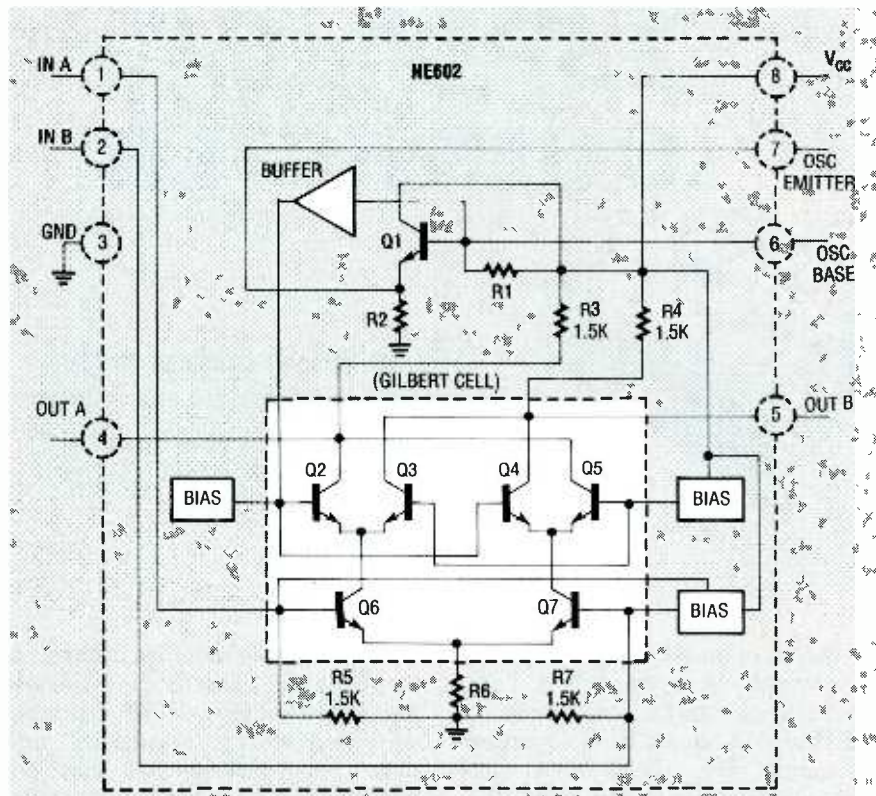

FIG. 2.—NE602 EQUIVALENT CIRCUIT WITH PINOUTS. The combination of differential amplifier Q6-Q7 and mixers Q2-Q3 and Q4-Q5 is called a Gilbert cell.
**FIG. 1—TYPICAL BRIDGE RECTIFIER, with voltage waveform shaped by an LC filter network. If only a pure resistive network were connected across points A, the waveform shown in Fig. 2-a would be seen with the aid of an oscilloscope.**
tion, or the unwanted generation of power-line voltage components at frequencies that are multiples of 60 Hz. Linear loads that draw power in proportion to the square of voltage exhibit far fewer problems. With rectifiers, however, strange things start happening to current waveforms. Figure 1 shows a full-wave bridge rectifier, while Fig. 2 shows the relevant voltages and currents.
The voltage across points A and C in Fig. 2-a is a full-wave, rectified sinusoid provided that only a purely resistive load were connected. Across points B and C, the LC filter produces the waveform shown in Fig. 2-b. The current from the bridge rectifier charges capacitor C1 for a small portion of each half cycle as shown in Fig. 2-c, and it supplies power to the load during that brief period. Capacitor C1 provides the power that drives the DC load for the remainder of the half cycle. Inductor L1 smooths the sharp points in the rectified voltage curve at *b*, but its effect on the following discussion is nil.
As the rectifier voltage drops to zero, the charge in C1 drives the DC load. Thus, current flows through transformer T1 for only a small portion of the sinusoid, as shown in Fig. 2-c, driving the DC load and recharging C1, so the energy is concentrated in short pulses. This pulsed current generates harmonics, making a transformer run hotter than it would for a pure 60-Hz sinusoid with RMS power identical to that of the corrupt
**FIG. 2—VOLTAGE AND CURRENT WAVEFORMS at different points in the power supply. At (a) is the voltage exiting the bridge rectifier, presuming either a resistive load or no load at all, instead of the LC filter; at (b) is the voltage exiting the LC filter, and at (c) is the current drawn through the transformer.**
Building a frequency converter is easier now than it's ever been because of a new IC, the Signetics NE602. The NE602 contains an LO and double-balanced mixer in an 8-pin DIP, as shown in Fig. 2, a block diagram of the IC. The NE602 was originally designed for VHF receiver front ends, since the LO works up to 200 MHz, and the mixer to 500 MHz. However, it has plenty of uses at lower frequencies as well, and this article will explore them.